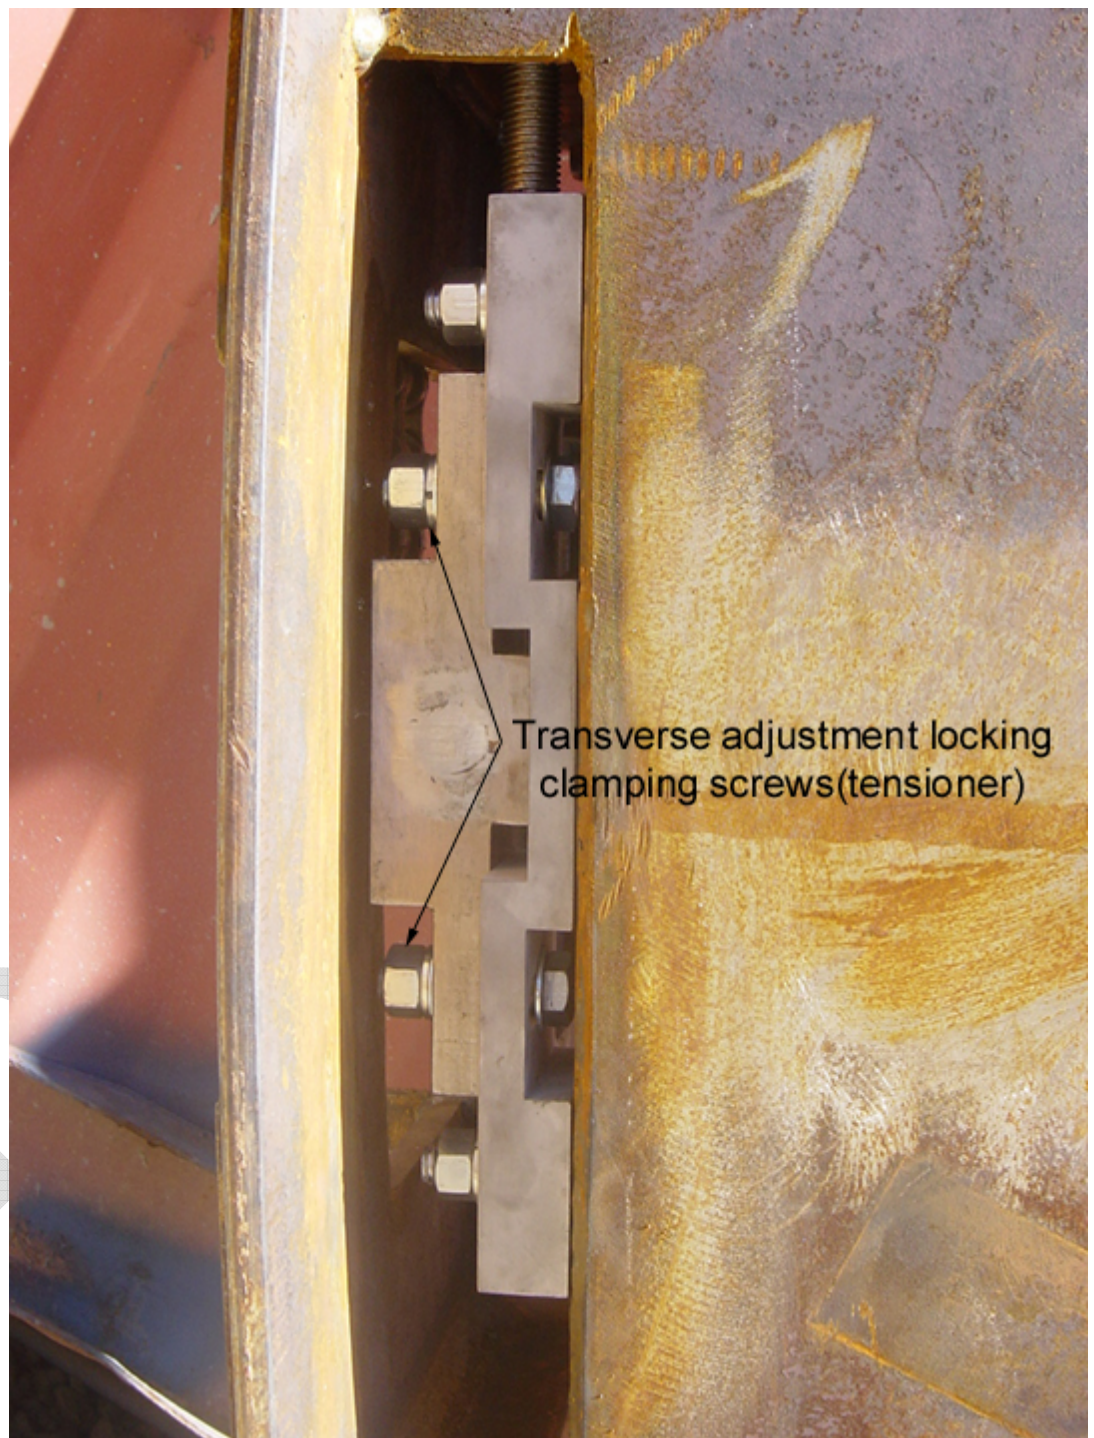

Figure 4.13
- a) Continuing to work on the same corner of the archbeam, loosen transverse adjustment clamping screws on Shutter Drive Chain Pre tensioner, see Figure 4.13.